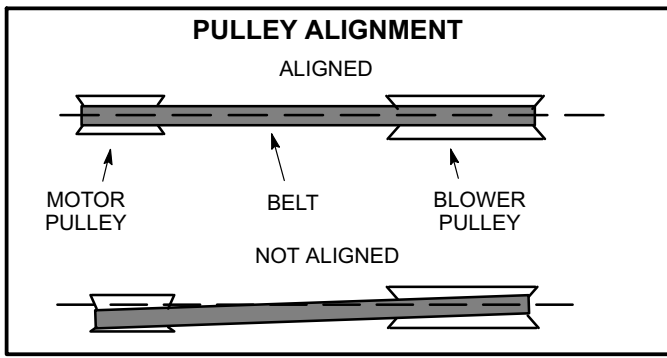

FIGURE 8
- 5- Check and adjust belt alignment as needed. See figure 8.
Maximum life and wear can be obtained from belts only if proper pulley alignment and belt tension are maintained. Tension new belts after a 24-48 hour period of operation. This will allow belt to stretch and seat grooves. Make sure blower and motor pulley are aligned as shown in figure 8.